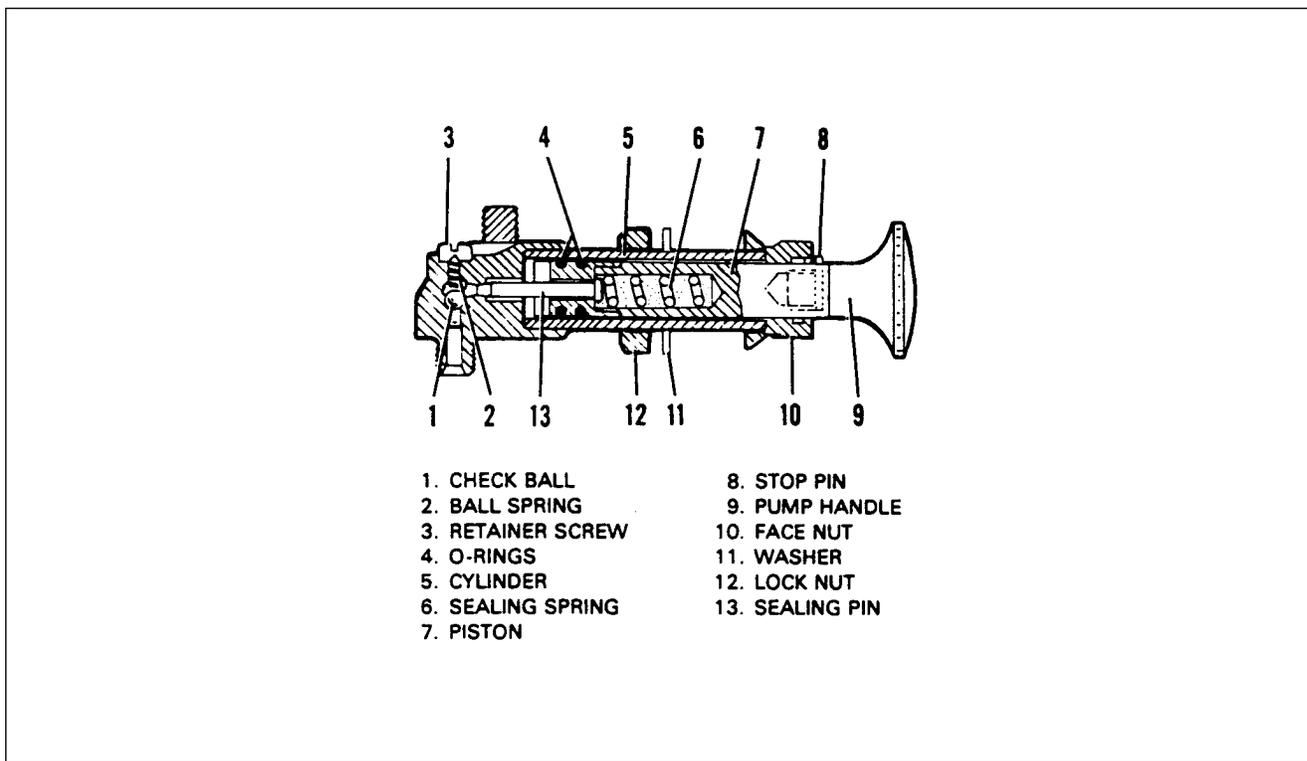

Figure 73-2. Engine Primer
**REMOVAL OF ENGINE PRIMER** (figure 73-2)
**DISASSEMBLY, CLEANING, AND ASSEMBLY OF ENGINE PRIMER** (figure 73-2)
**INSTALLATION OF ENGINE PRIMER** (figure 73-2)